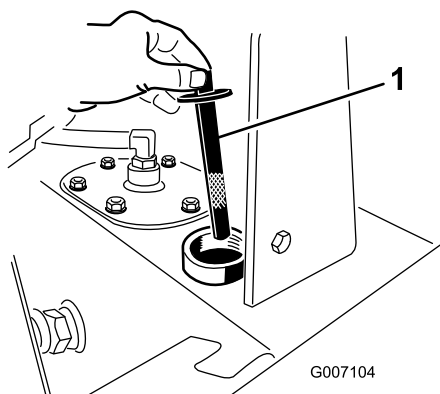

Figure 20
5. Check the fluid level on the dipstick (Figure 20).